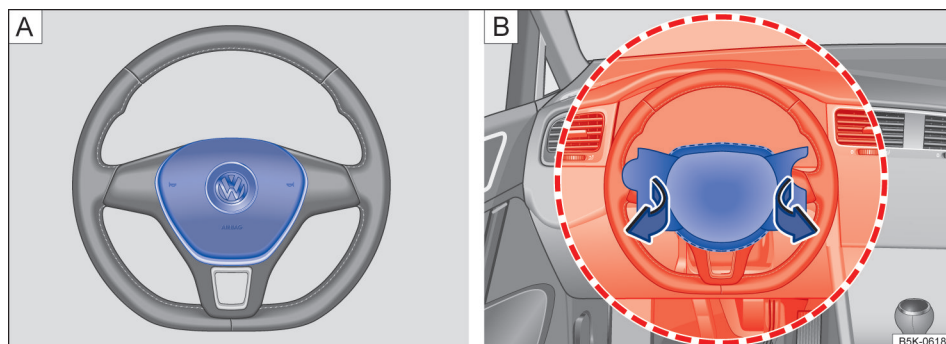
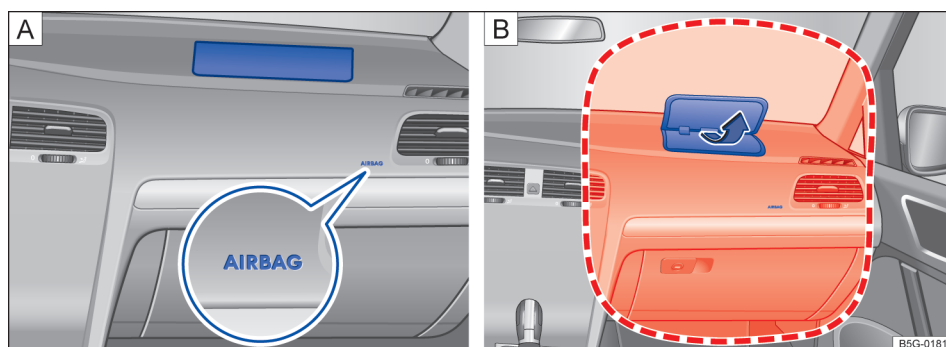

Fig. 34 Location and deployment zone of the driver front airbag.
Fig. 35 Location and deployment zone of the front passenger front airbag.
wheel hub → fig. 34 A and the airbag for the front passenger is in the instrument panel → fig. 35 A. The general location of the airbags is marked "AIR-BAG."
The areas marked in red (dotted lines) → fig. 34 [B] and → fig. 35 [B] indicate the airbag deployment zone. Never place or attach accessories or other objects (such as cup holders, telephone brackets, note pads, navigation systems, large, heavy or bulky objects) on the doors, on the windshield, over or near the area marked in red (dotted lines).
- Never place accessories or other objects (such as cup holders, telephone brackets, notepads, navigation systems, or things that are large, heavy, or bulky) on the doors or attach them to the doors; never place them over or near the area marked "AIRBAG" on the steering wheel, instrument panel, or seat backrests, or between those areas and someone in the vehicle → fig. 34 and → fig. 35. Such objects could cause serious injury in a collision, especially if an airbag inflates.